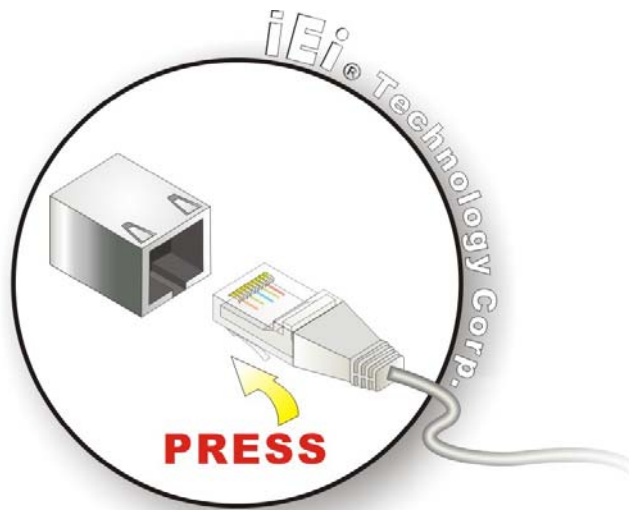

Figure 3-33: LAN Connection
Step 2: Align the connectors. Align the RJ-45 connector on the LAN cable with one of the RJ-45 connectors on the WIDS-51xA-H61. See **Figure 3-33**.